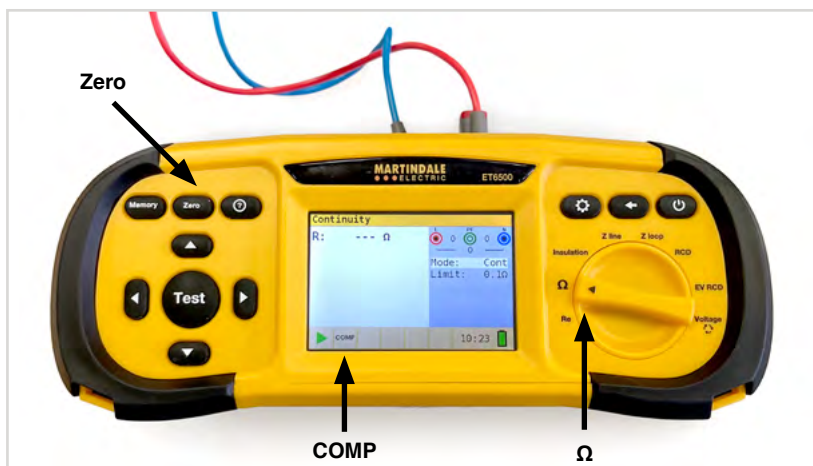

Fig 3. Front panel shot of the ET6500,  $\Omega$  function selected, zero button pressed.
- ◆ Power on the instrument and select the  $\Omega$  function using the function selector switch as shown in Fig 3.